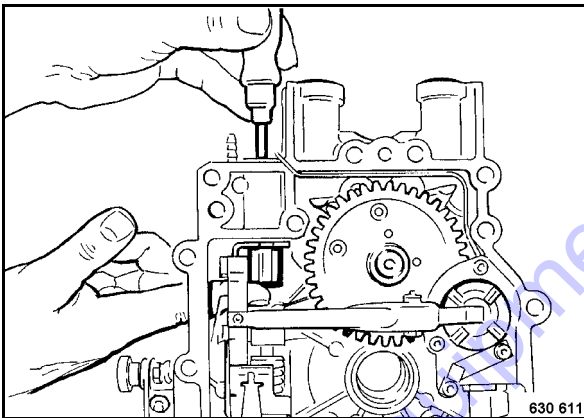

Fig. 85
- Insert a screwdriver from the top to secure the control sleeve (Fig. 85) against falling down.